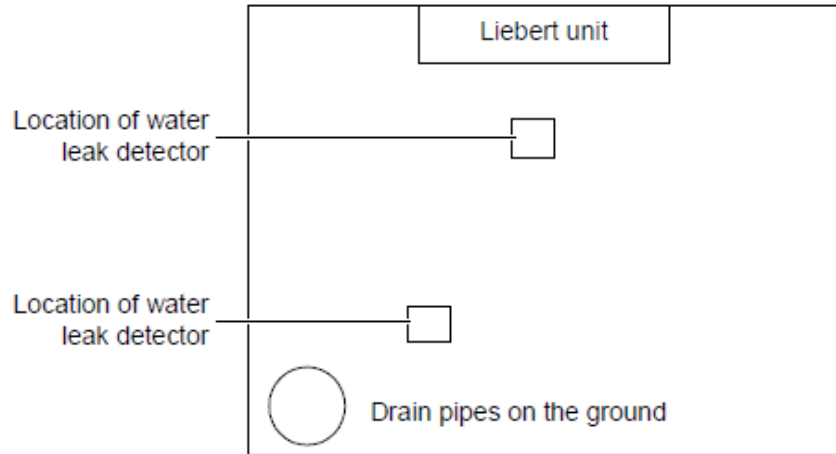

Figure 2-27 Recommended installation locations of the leakage water detectors
- The recommended installation locations of the detectors are shown in Figure 2-27.